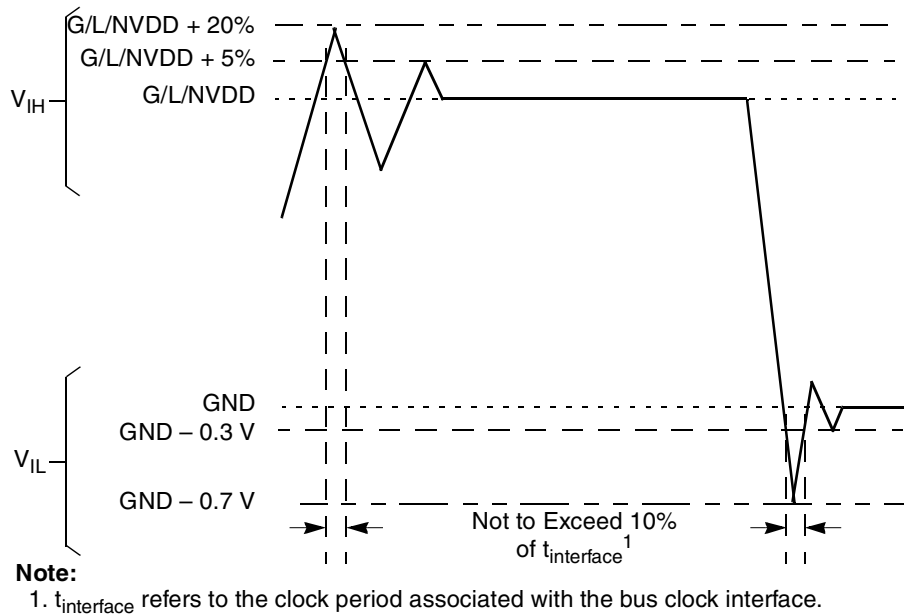

Figure 2. Overshoot/Undershoot Voltage for GVDD/NVDD/LVDD
- (M,N,L)V_{IN} and MVREF may overshoot/undershoot to a voltage and for a maximum duration as shown in Figure 2.
Figure 2 shows the overshoot and undershoot voltages at the interfaces of the MPC8314E.